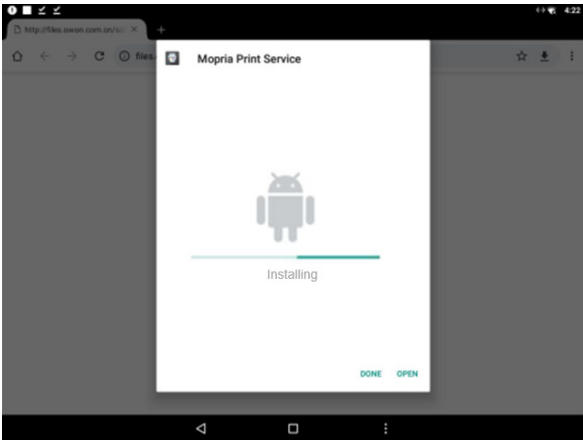

Figure 4
4. Software install produce, as shown in Figure 4.